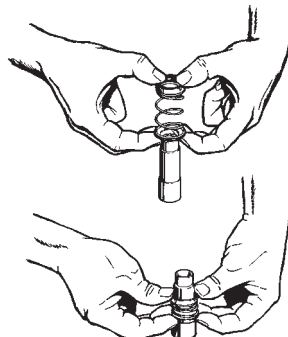

Figure 4-13
- d. Holding the element assembly between the thumb and index finger of both hands, refer to Figure 4-13, slide the assembly